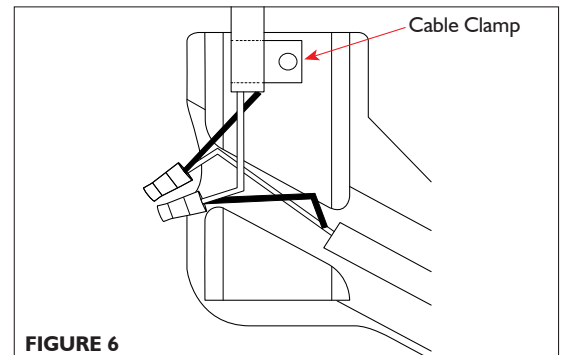

FIGURE 6
11. Reinstall the cable clamp to the housing to secure the light cord, and then gently pull any remaining slack back through the device. **Figure 6**